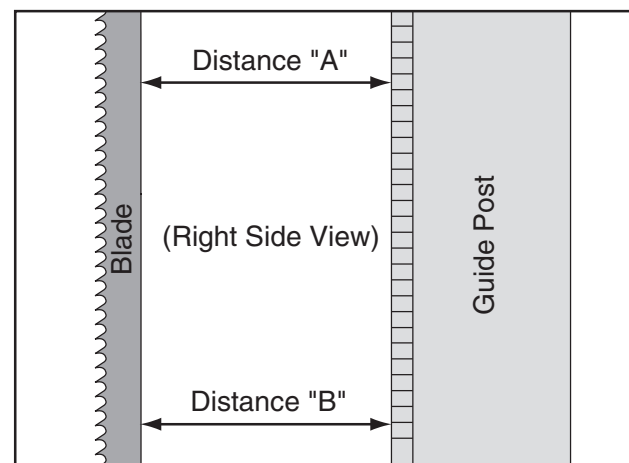

Figure 82. Example of measuring distance between rack and blade at top of guide post.
4. Measure the distance "A" between the top front face of the guide post rack and the back of the blade (see **Figure 82**).
5. Measure the distance "B" between the bottom front face of the guide post rack and the back of the blade (see **Figure 82**).